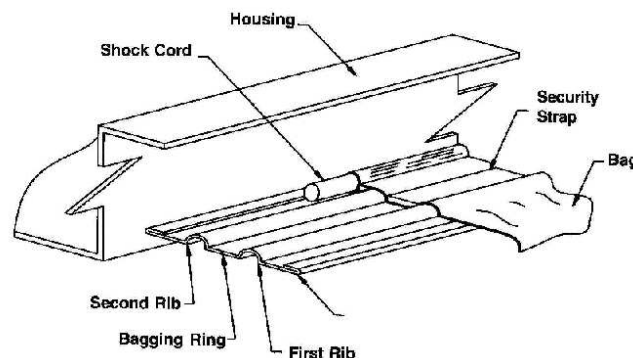

Figure 1.
5.4.4.4 Locate the shock cord of the plastic bag between the second rib of the ring and the housing frame. See Figure 1 below.
5.4.4.7 Place the security strap between the first and second ribs of the bag-in/bag-out ring. See Figure 1.
- 5.4.17 Locate the shock cord of the plastic bag between the second rib of the ring and the housing frame. See Figure 1.
- 5.4.20 Place the security strap between the first and second ribs of the bag-in/bag-out ring. See Figure 1.
- 5.5.4 Place the new plastic bag over the bag-in/bag-out ring. The shock cord of the plastic bag is to be located between the second rib of the ring and the housing frame. See Figure 1.
- 5.5.7 Place the security strap between the first and second ribs of the bag-in/bag-out ring. See Figure 1.